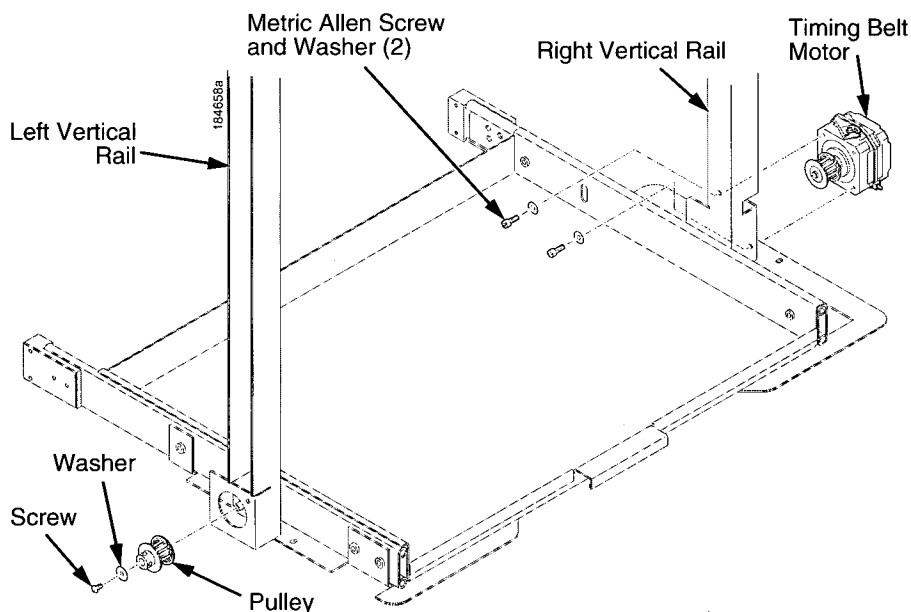

**Figure 97. Removing and Installing the Constant Force Spring**
3. Remove the shoulder screw, large washer, spacer, and small washer from the constant force spring and drum. Let the spring coil itself up until it reaches the top of its travel on the vertical rail. (Figure 97.)
4. Firmly gripping the spring and drum, remove the rail screw and washer securing the spring to the vertical rail. (Figure 97.)
5. Position a new constant force spring on the vertical rail and install the rail screw and washer. (Figure 97.)
6. Install the shoulder screw, large washer, spacer, and small washer as shown in Figure 97.